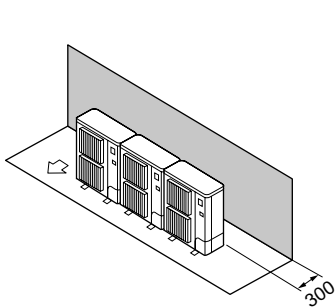

Fig. 2-10
- Obstacles at rear only (Fig. 2-10)